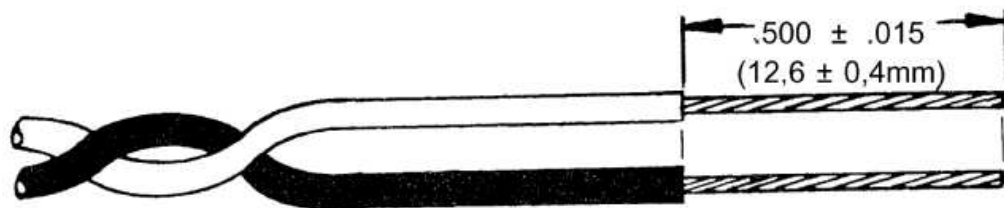

FIGURE 2
- 5.1.2 Strip wires per Figure 2.